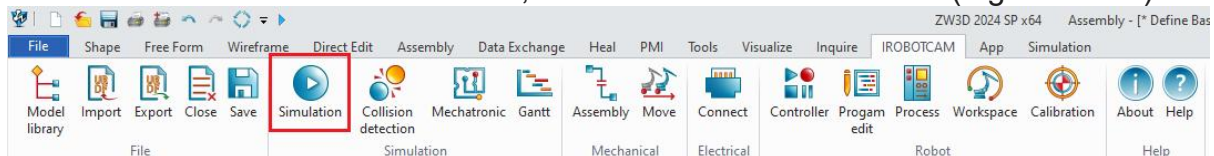

Figure 12-21: Simulation verification
- In the "IROBOTCAM" column, click the "Simulation" button. (Figure 12-21)